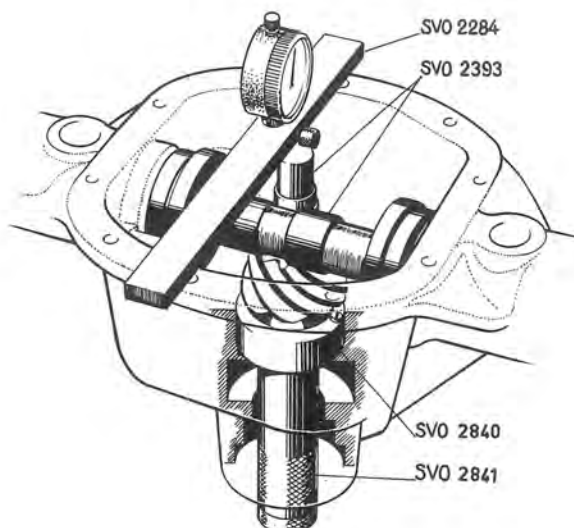
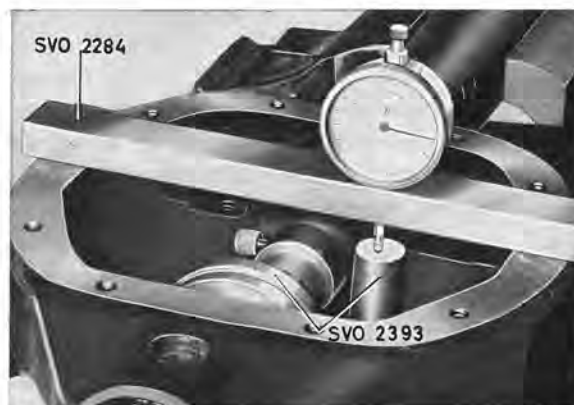

Fig. 4-156. Locating measuring tools
Fig. 4-157. Zero-setting indicator
1. Clean the marking surface on the pinion with extremely fine emery cloth. Fit the adjusting ring 2840 and tool 2841 on the pinion, see Fig. 4-154. Place the pinion in the carrier, see Fig. 4-156, and secure the adjusting ring by screwing out the lock screw.
Place the pinion gauge on the ground surface of the pinion and the adjusting jig in the differential bearing positions as shown in Fig. 4-156. Place the indicator retainer on the drive pinion carrier and zero-set the gauge against the adjusting ring, see Fig. 4-157. Then move the indicator retainer over so that the indicator comes against the pinion gauge, see Fig. 4-158. If the pinion is, for example, marked 33, the pinion gauge should lie 0.33 mm (0.013") under the adjuster fixture. The setting is adjusted by turning the cam on the pinion until the gauge dial shows the correct value. Then lock the adjusting ring with the lock screw. Remove the measuring tool and pinion.